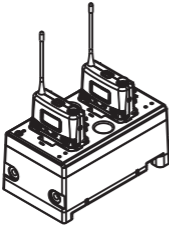

Fig. 36: MP-80:
3. MP-80 dual-docking battery charger, Fig. 36.